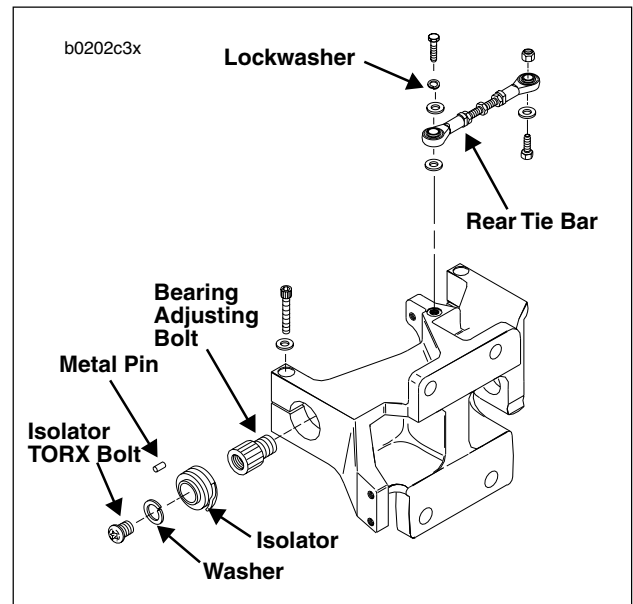

Figure 6-8. Installing Isolators (Typical)
- See Figure 6-8. Install right rubber isolator.